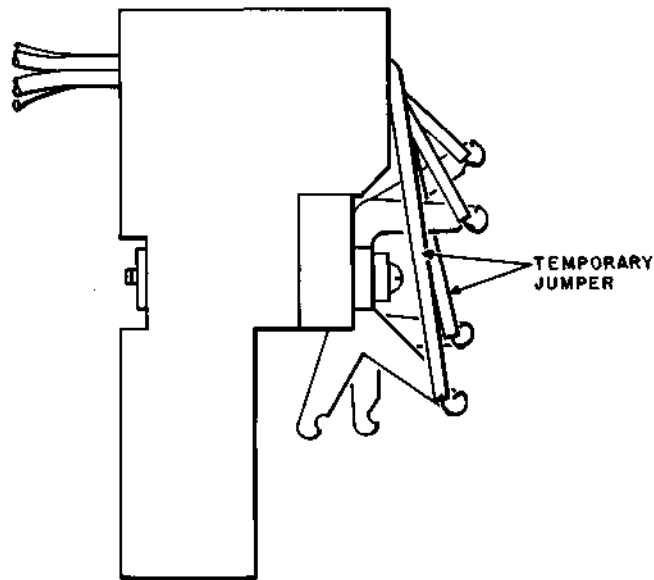

Fig. 15—Temporary Cross-Connections on No. 65 or Similar Type Terminal Strip Without Back Notch Terminals
12.06 The temporary jumpers should be connected to the extra terminals as shown in Fig. 15. Where local instructions specify that either the upper or lower terminals should be used for the